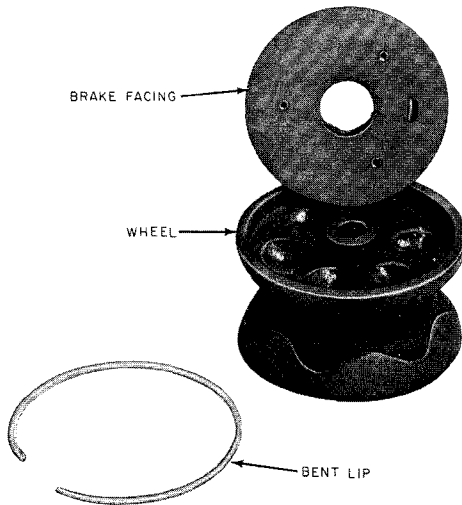

Fig. 11—Brake Wheel
7.05 To replace the brake facing, remove the brake wheel as in 7.04. Remove the brake facing retainer by prying out the bent end with a screwdriver. Lift out the old brake facing (Fig. 11). When installing the new brake facing, insert the lip on the steel plate between the stops on the